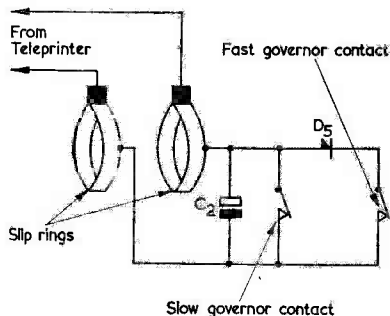

Fig. 2. The modified governor
Referring now to Fig. 2 it may be seen, from what has just been stated, that current is fed to the governor through the slip-rings in one of two directions according to which speed is desired.
* Fig. 2 circuit.